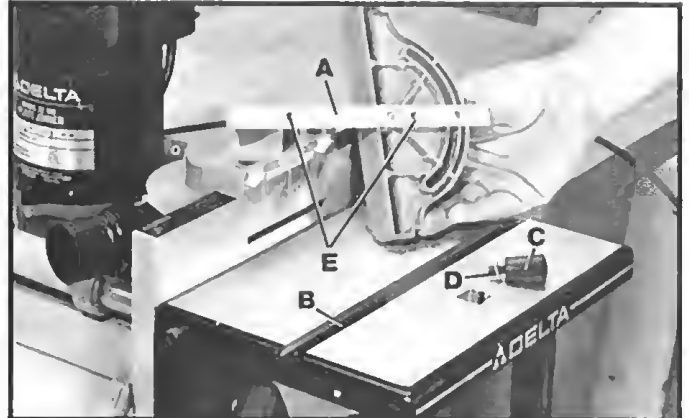

Fig. 12
1. When using the adjustable stock stop, place bar (A) Fig. 12, in groove (B) of table. Fasten the bar to the table using lock knob (C) and washer (D). Thread lock knob (C) up through one of the slots in the table groove and into one of the two threaded holes (E) in bar.